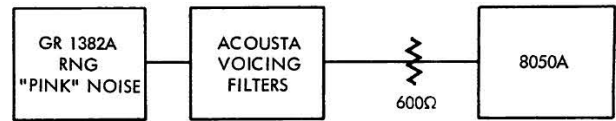

Figure 8. Finding Electrical Response of Filters
5. Response curves of the filter settings (see Figure 8.)